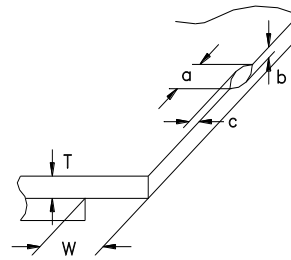
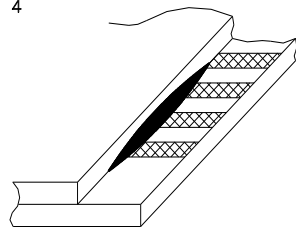

fig . 5
fig . 6
**I2C BIT TRANSFER****Fig 5. Bit Transfer****START AND STOP CONDITIONS****Fig 6. Definition of START and STOP Condition****ACKNOWLEDGEMENT OF I2C INTERFACE****Fig 8. Acknowledgement of I2C Interface**